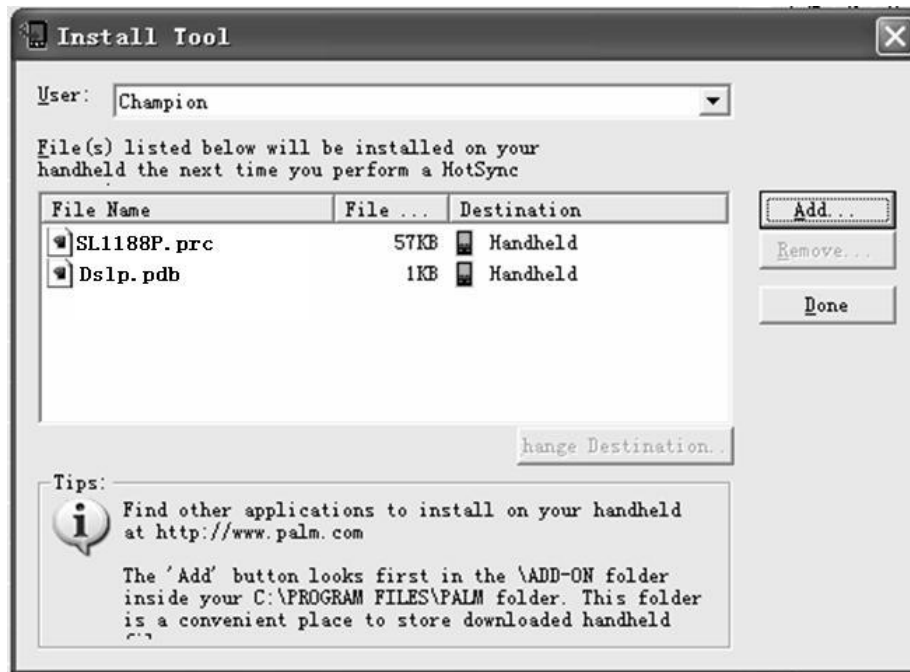

Figure 6-3. Select a User Name and Sync File INNOVA SONIC PORTABLE.prc and
4. Select the corresponding user on the pop-up window and click [Add] button to install communication software application INNOVA SONIC PORTABLE.prc and serial number file Dslp.pdb. See Figure 6-3.